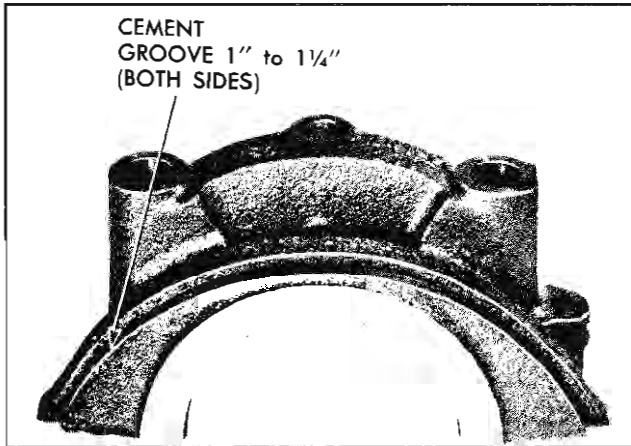

Fig. 6-48 Oil Pan Gasket Positioned in Bearing Cap
8. Apply gasket cement to gasket groove from joint face down 1" to 1 1/4" (Fig. 6-48) and install new gasket.